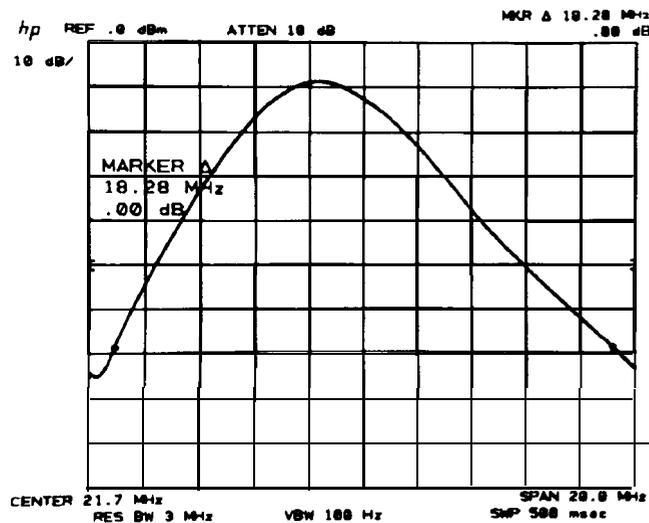

Figure 2-7. 60 dB Bandwidth Measurement
4. Press **MARKER NORMAL** and position marker at peak of signal trace. Press **MARKER Δ** and position movable marker 60 dB down from the stationary marker on the positive-going edge of the signal trace (the **MARKER Δ** amplitude readout should be 60.00 dB ±1.00 dB). It may be necessary to press **SWEEP CONT** and to adjust **CENTER FREQUENCY** so that both 60 dB points are displayed (see Figure 2-7).
6. Read the 60 dB bandwidth for the 3 MHz resolution bandwidth setting from the MARKER A frequency readout (see Figure 2-7) and record the value in Table 2-9.